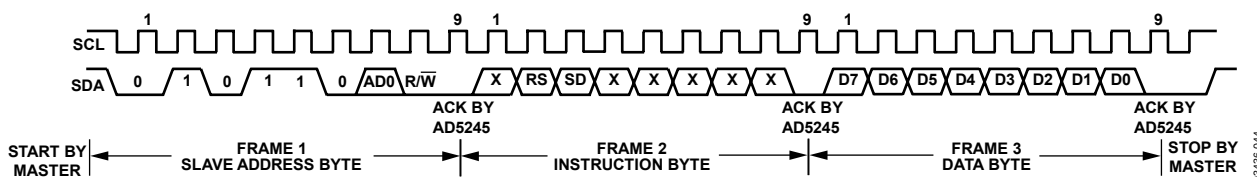
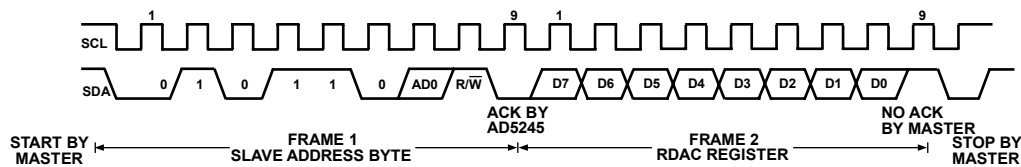

Figure 45. Writing to the RDAC Register
Figure 46. Reading Data from a Previously Selected RDAC Register in Write Mode
1. The master initiates data transfer by establishing a START condition, which is when a high-to-low transition on the SDA line occurs while SCL is high (see Figure 45). The next byte is the slave address byte, which consists of the 7-bit slave address followed by an  $\overline{R/\overline{W}}$  bit (this bit determines whether data is read from or written to the slave device). The AD5245 has one configurable address bit, AD0 (see Table 8).
3. After acknowledging the instruction byte, the last byte in write mode is the data byte. Data is transmitted over the serial bus in sequences of nine clock pulses (eight data bits followed by an acknowledge bit). The transitions on the SDA line must occur during the low period of SCL and remain stable during the high period of SCL (see Figure 45).
4. In read mode, the data byte follows immediately after the acknowledgment of the slave address byte. Data is transmitted over the serial bus in sequences of nine clock pulses (a slight difference with write mode, in which eight data bits are followed by an acknowledge bit). Similarly, the transitions on the SDA line must occur during the low period of SCL and remain stable during the high period of SCL (see Figure 46).
5. After all data bits have been read or written, a STOP condition is established by the master. A STOP condition is defined as a low-to-high transition on the SDA line while SCL is high. In write mode, the master pulls the SDA line high during the 10th clock pulse to establish a STOP condition (see Figure 45). In read mode, the master issues a no acknowledge for the ninth clock pulse (that is, the SDA line remains high). The master then brings the SDA line low before the 10th clock pulse, which goes high to establish a STOP condition (see Figure 46).